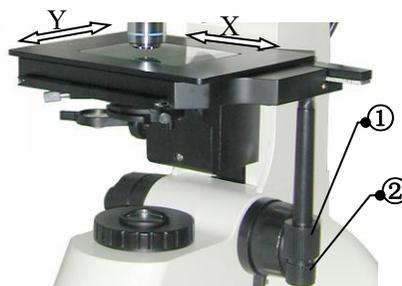

Fig.11
b. adjusting interpupillary distance, Proper interpupillary distance, or the distance between eyepieces, is crucial to the comfort of the user. Adjusting the interpupillary distance is accomplished through a “folding” action of the optical head, the adjusting range is 53~75 mm. See fig.11.
The transverse (X-Axis) adjusting knob ② and longitudinal (Y-Axis) adjusting knob ① is coaxial. The knob ① control the moving of Y axis and the knob ② control X axis. The moving range of longitudinal is 0~50mm, the transverse is : 0~75mm. See fig.11.